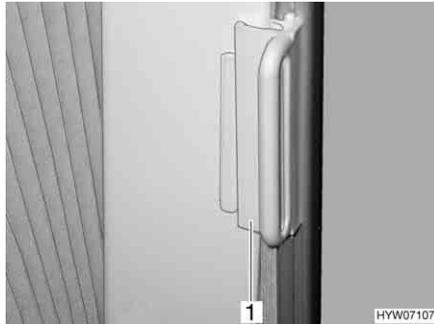

Fig. 23 Locking mechanism for Roman shade on driver's/front passenger's windows
- On the Roman shades for the driver's and passenger's window, push the handle (Fig. 23,1) onto the cap. The Roman shade is secured.